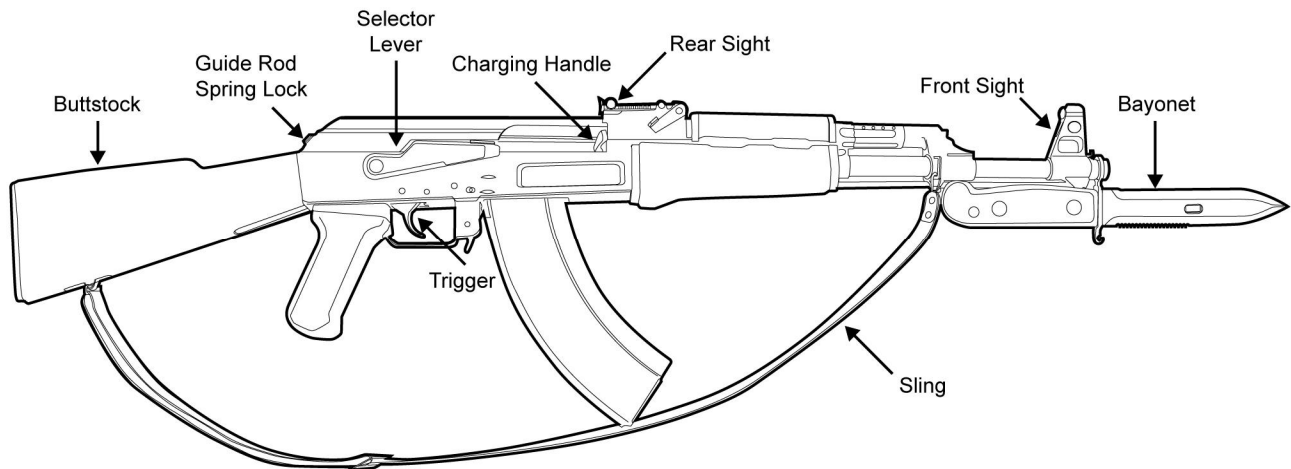

Figure 2. Right Side of the AK-47 Rifle.
5. **Right Side.** The right side view of the weapon displays the buttstock, guide rod spring lock, trigger, selector lever, charging handle, rear sight, front sight, sling, and bayonet. Refer to Figure 2.